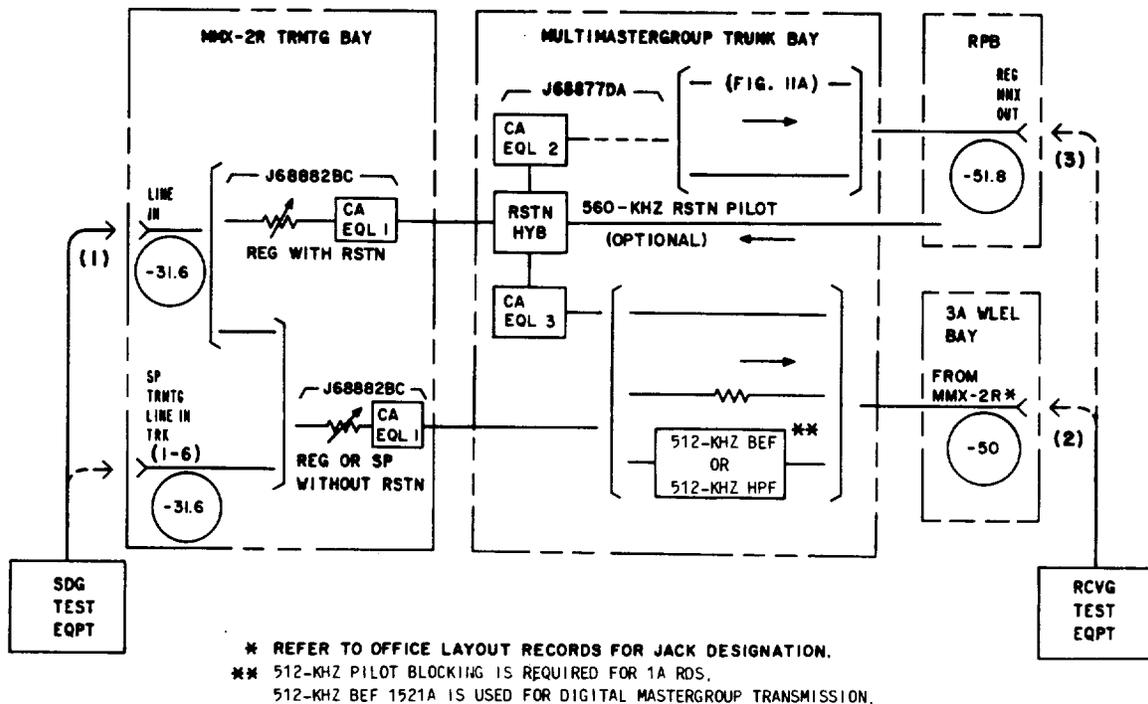

Fig. 1 — Transmitting Regular or Spare Radio Trunk Without Mastergroup Branching
**Note:** When signal tracing to locate trouble, remember that the band is flat only at certain jacks as indicated in Figures 1 through 10. The cable and/or cable equalizers slope the band at other points in the trunks.
- 4 Connect the STE to the LINE IN or SP TRMTG LINE IN TRK jack in the MMX-2R transmitting bay [patch (1), Fig. 1].
- 5 Connect the RTE to the appropriate **FROM MMX-2R** jack in the WLEL bay [patch (2), Fig. 1].
9	Remove patch (2), Fig. 1.
10	Connect the RTE to the REG MMX OUT jack in the restoration patch bay [patch (3), Fig. 1]
13	Proceed to Step 14 if the requirement of Step 11 is met. Otherwise, continue signal tracing to locate and clear the trouble. Then repeat Steps 10 through 12, as required.  Note 1: A zero-loss trunk (Fig. 9A) may be used in conjunction with this trunk. In this case, the zero-loss trunk should be tested as prescribed in Chart 9A. The zero-loss trunk is indicated in Fig. 1 by the designation Fig. 9A.  Note 2: Chart 10 is a procedure for checking the 263A amplifier provided in earlier J68877DA panels.  Note 3: Chart 11 is a procedure for checking the cable equalizers in the J68877DA and J68882BC panels.